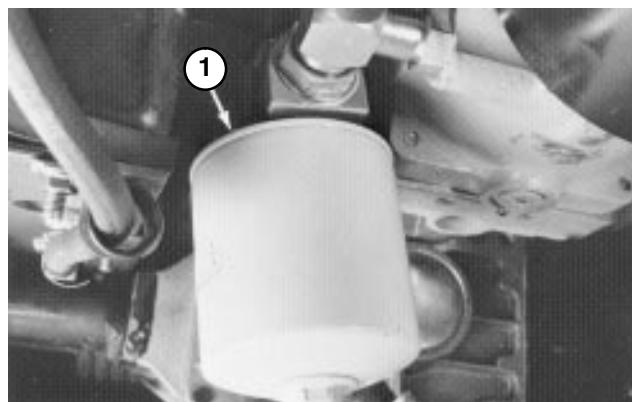

Figure 65
1. Clean area where hydraulic oil filter mounts. Remove filter from base (Fig. 65) and clean filter mounting surface.